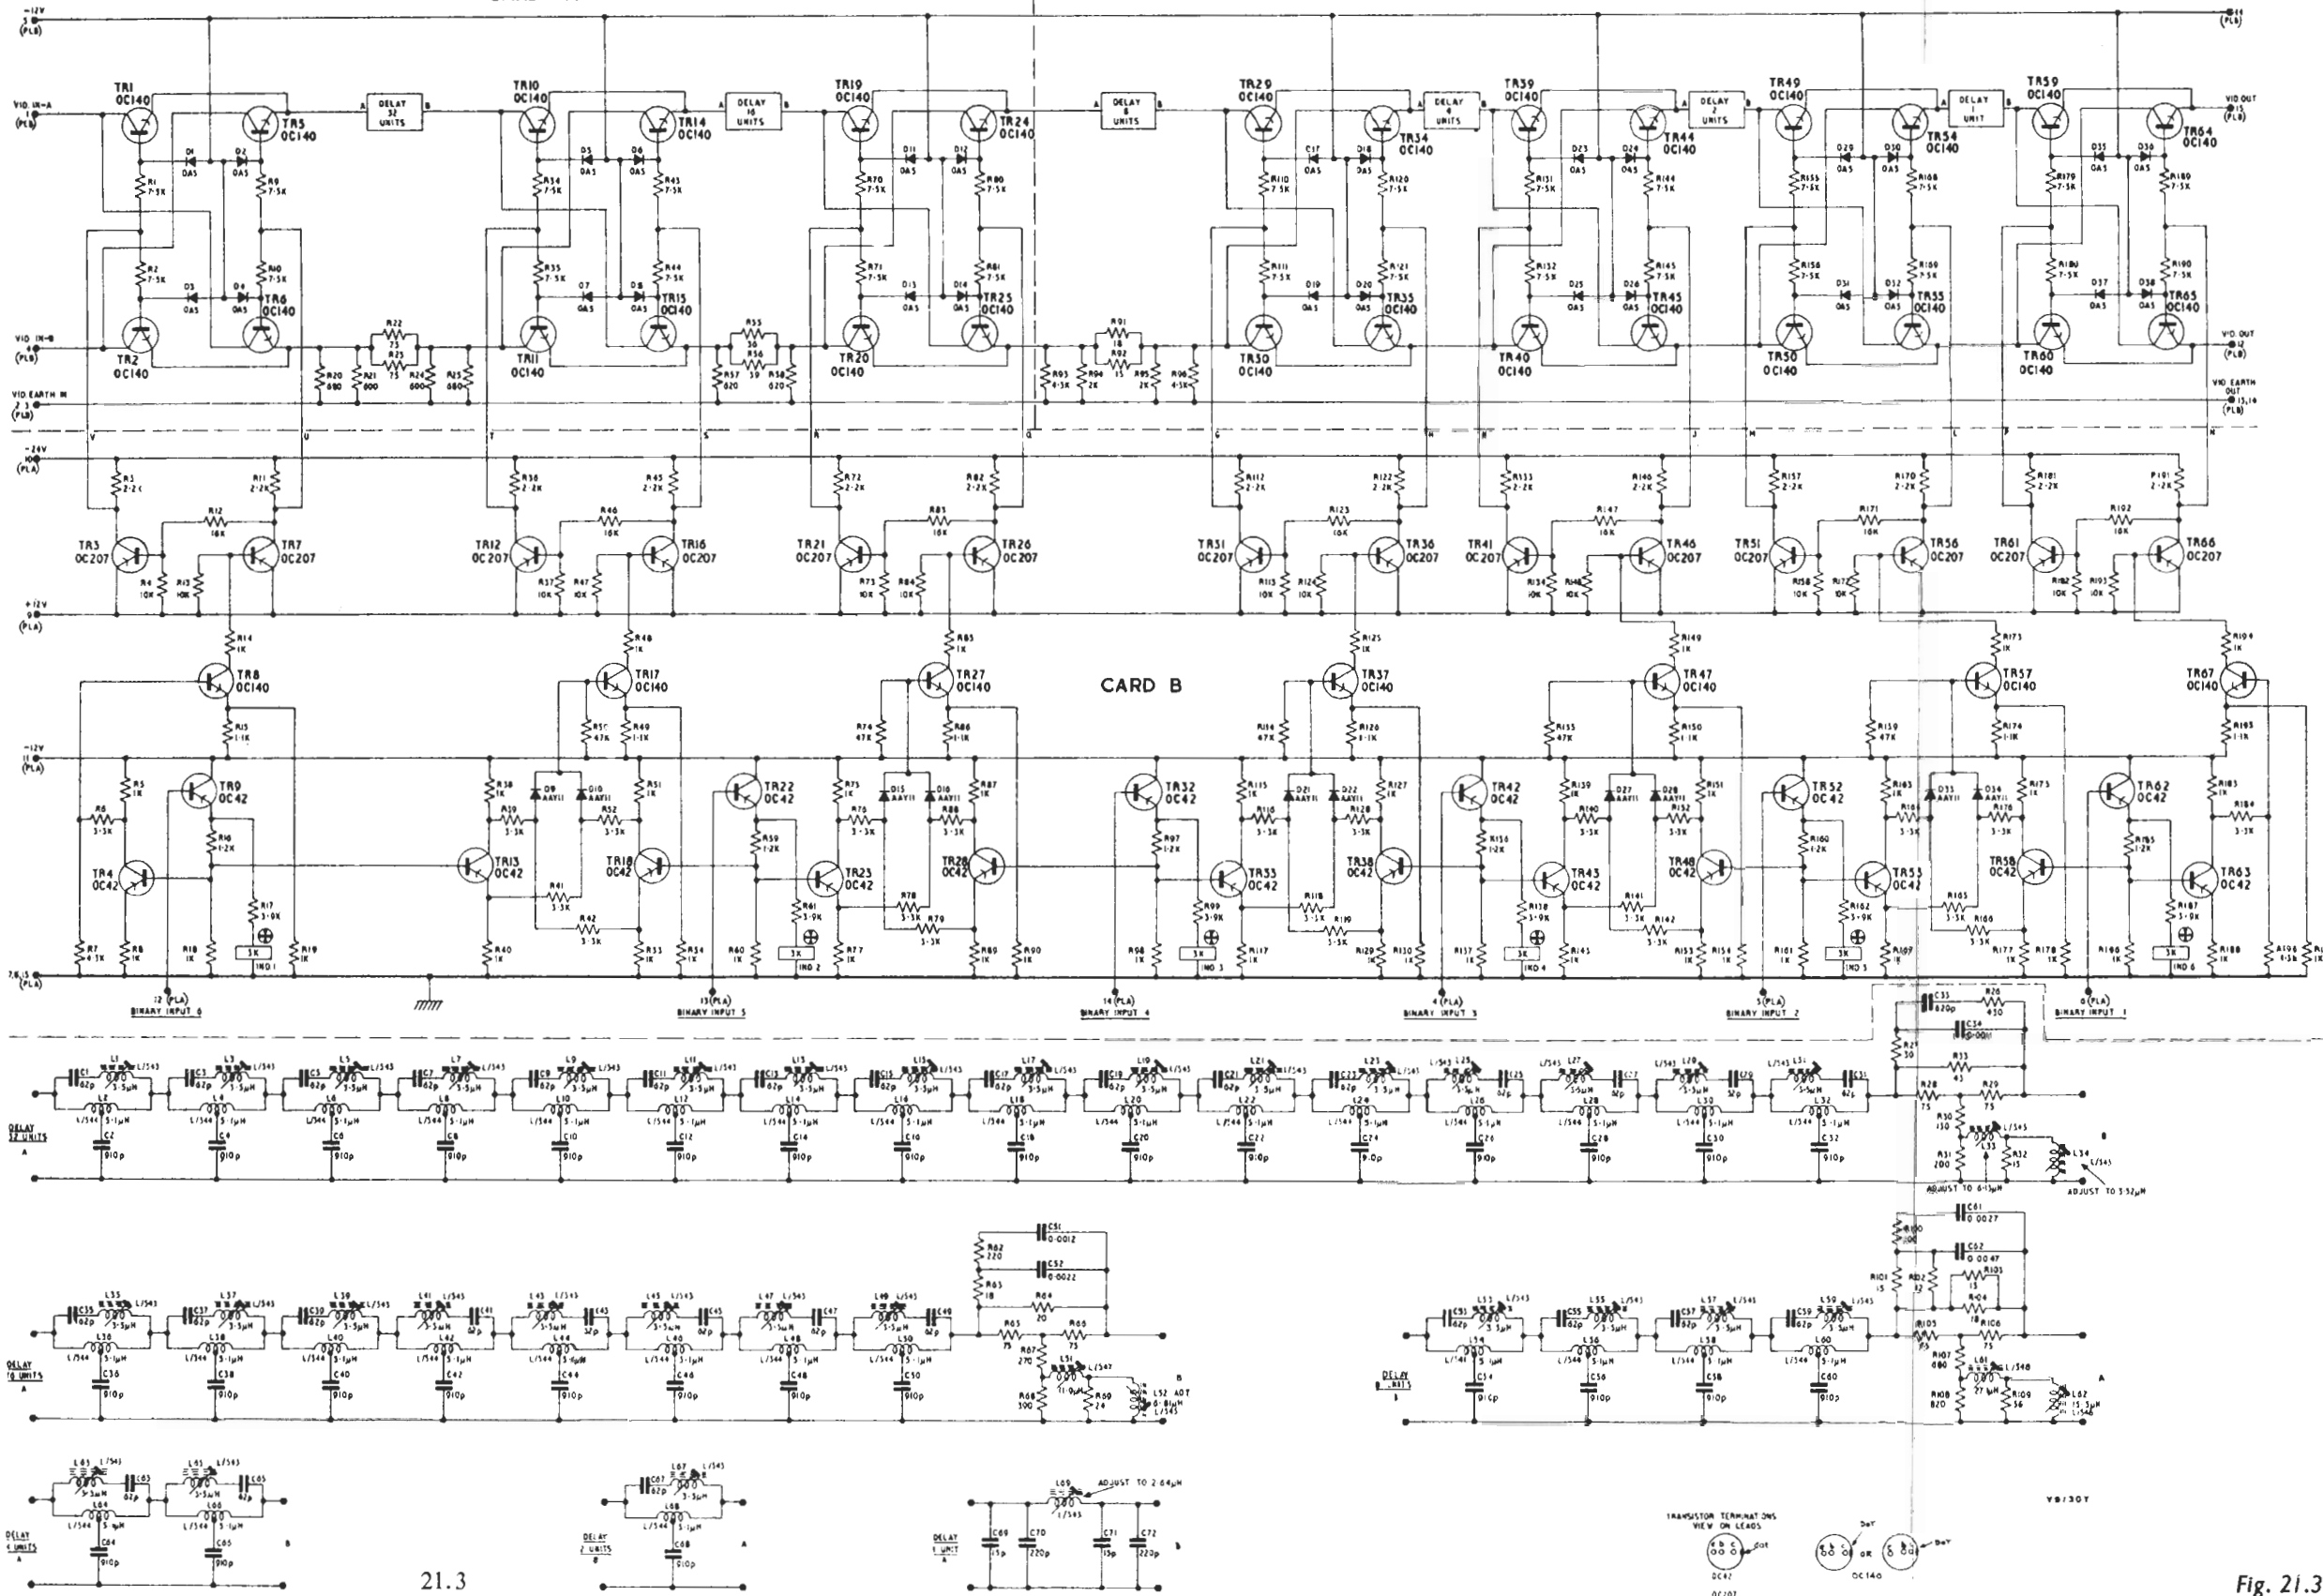

Fig. 21.3 Circuit of the NE4/502
The full circuit of the NE4/502 is given in Fig. 21.3.
1. Connect the power supplies as shown in Fig. 21.3.